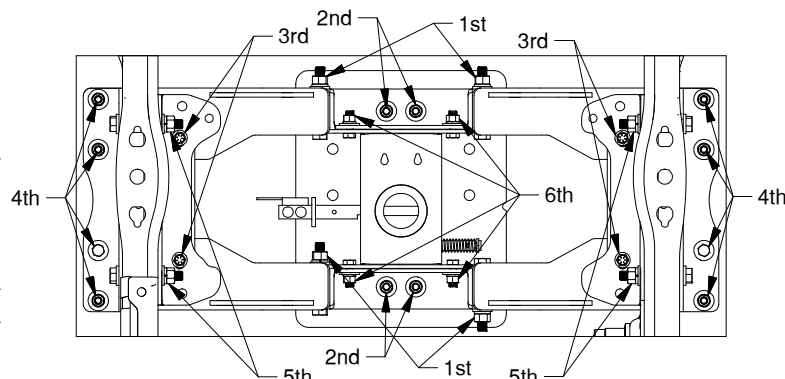

Figure E2: View looking up at hitch installation showing bolt torque sequence.
- 8. Torque all hitch hardware.** Once hitch is in the correct position and all hardware is tight, torque the hitch bolts in the order outlined below, starting with the 5/8" cap screws in the center section, see Figure E2. Torque all 5/8" hardware to 150 ft. lbs. and all 1/2" hardware to 110 ft. lbs.